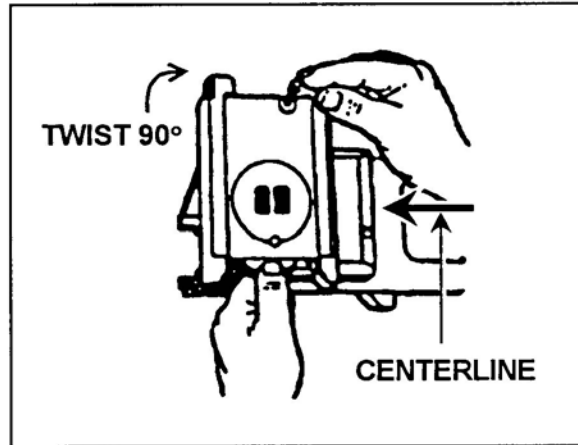

Figure 25. Attachment of the receiver sear assembly.
k. Attach the receiver sear assembly (Figure 25).